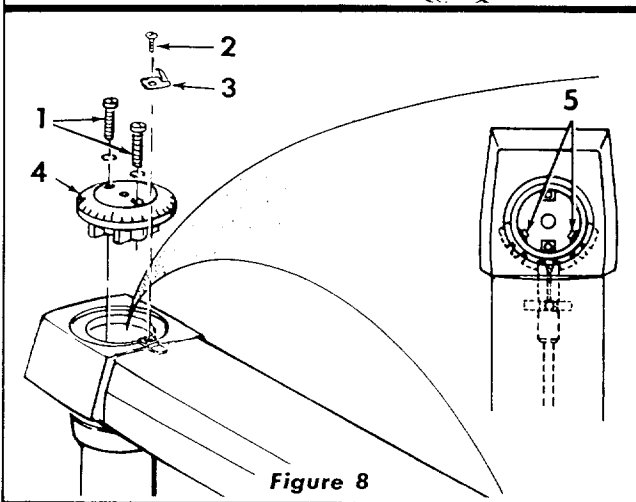

Figure 8
- Remove three screws (1 and 2, figure 8), miter-scale indicator (3) and radial arm cap (4).
- Loosen (do not remove) two hex-head screws (5, figure 8) located inside the column tube.
- Re-tighten the hex-head screws (5, figure 8) and a latch handle.
- After the cross-cut has been accurately squared, install the radial arm cap (4, figure 8), miter-scale indicator (3) and screws (1 and 2). Set the indicator (3) at 0° position.